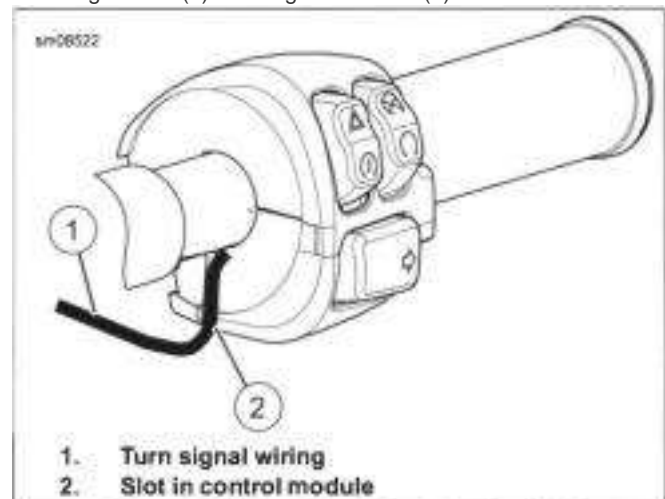

Figure 7-19. Turn Signal Routing (Typical)
- **Handlebar-mounted turn singles:** See Figure 7-19. Verify that turn signal wiring (1) is routed through opening (2).